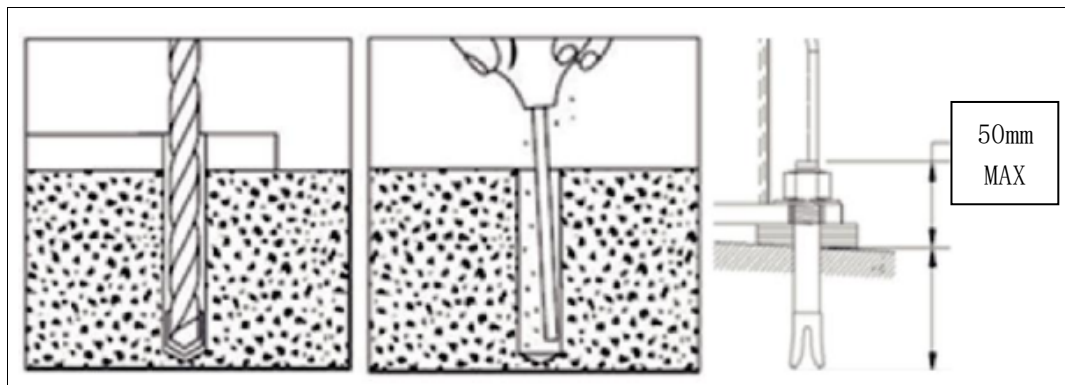

Figure 5
7.3 Place the main column on the foundation, drill holes with an impact drill, clean the residual dust in the bolt holes with a vacuum cleaner, and gently tap the expansion bolts into the holes with a hammer. The height of the expansion bolts exposed above the ground shall not exceed 50mm, and do not tighten the nuts for the time being (see Figure 5).